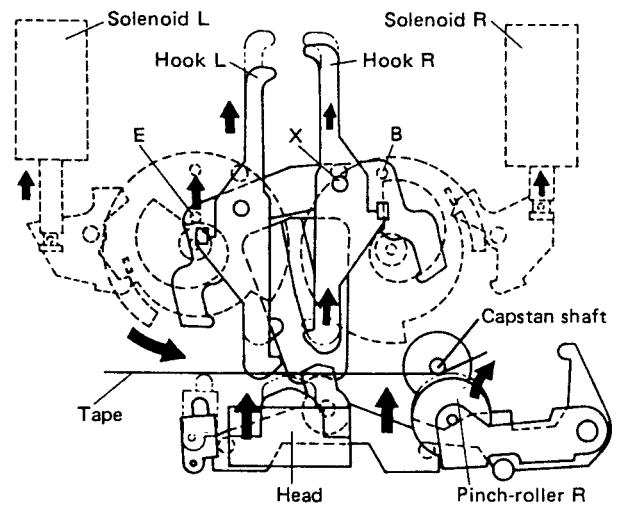

Fig. 1-15 PAUSE-PLAY operation 5
- When point E reaches the same height as point B, it stops. The head and pinch-roller at this point is shown in Fig. 1-15. Here, since the E point has reached the same height as the B point, the X point rises higher than that of the PAUSE status. Consequently, the head makes contact with the tape, and the tape is pinched between pinch-roller R and the capstan shaft, completing PLAY mode entry.